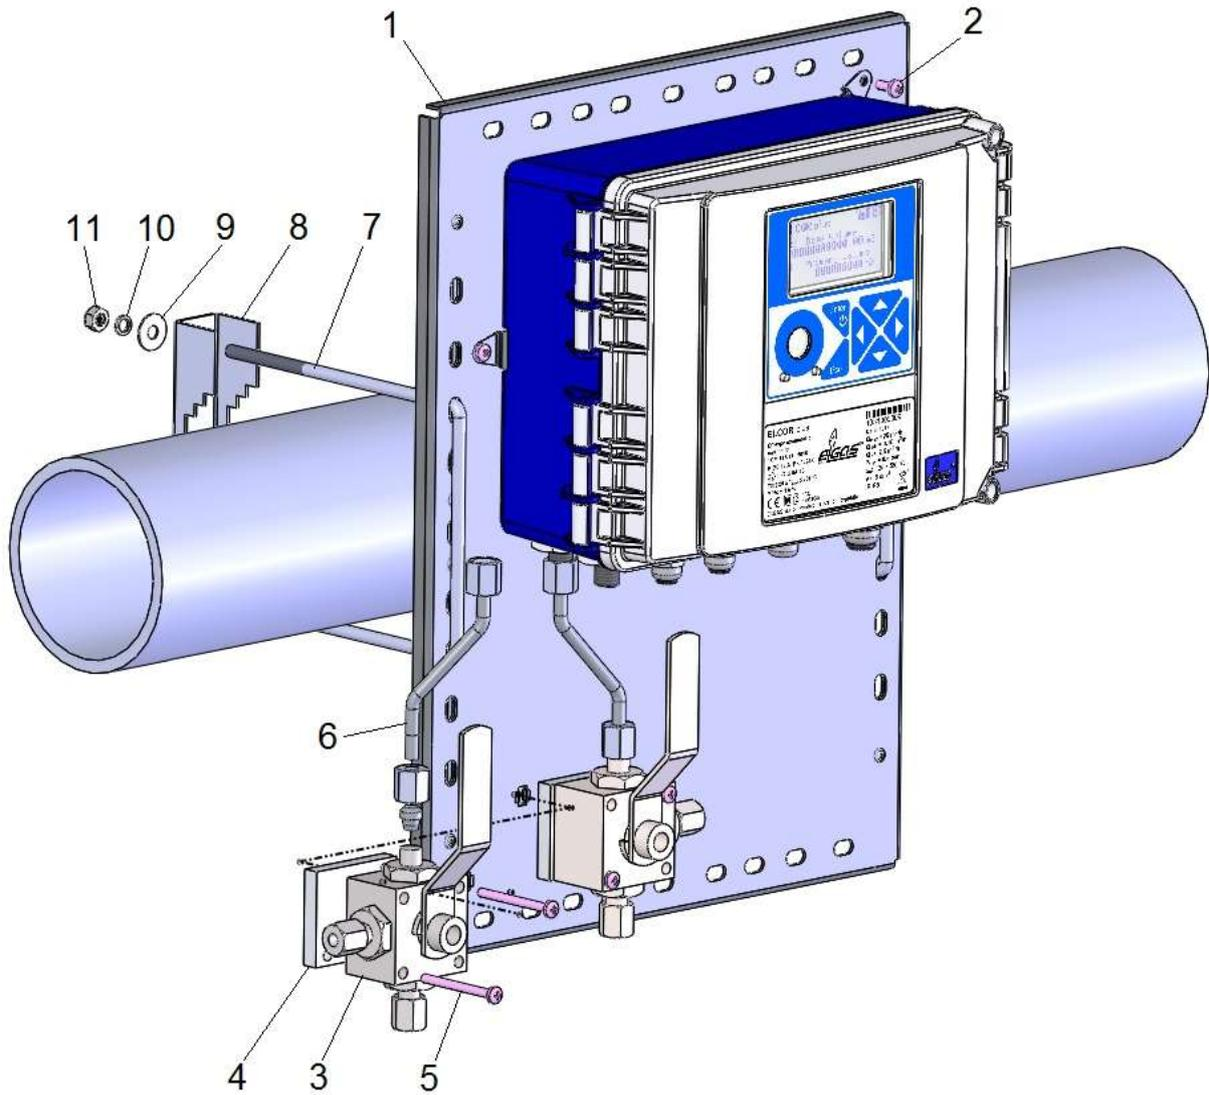

Fig. 11 Mounting the device on a pipe (dual channel variant of ELCORplus)
4. Attach the 3-way valve **2** to the prepared position on the mounting plate using 2 screws M4x45 ISO 7045 **5**. Place a metal washer between the valve and the mounting plate (position (4) in Fig. 11). Before the assembly, make sure that the outlets are properly oriented and check the position of the three-way valve. Connect the free end of the connection tube to the three-way valve outlet (for more details, refer to Section 5.4.4).
Clamps (7) (see Fig. 11) with spacings corresponding to the pipe diameters are reeved through the openings in the mounting plate (1) and inserted over the pipe. Fasteners (8) are fixed onto the free ends of the clamps by means of nuts M6 (11) and washers (9) and (10) to secure the mounting plate in the desired position on the pipe. The mounting plate can be used for fixing to a pipe of diameter:
The corrector connected via the 3-way valve is shown in Fig. 11. Pressure tube 6x1 **6** with cutting ring pre-pressed on both sides is first thoroughly inserted into the pressure inlet of the device and secured with M12x1,5 ERMETO nut. The other end of the tube is attached to the 3-way valve working outlet fitted on the mounting plate and the nut is gently tightened. The last operation is tightening the nuts on both sides of the connecting pressure pipe. Excessive force must not be applied when tightening the key, otherwise the thread will be damaged.